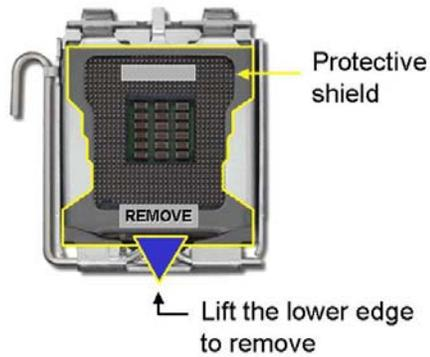

Figure 4-5: Remove the CPU Socket Protective Shield
Step 4: Remove the protective cover. Remove the black protective cover by prying it off the load plate. To remove the protective cover, locate the “REMOVE” sign and use the fingernail to pry the protective cover off. (See Figure 4-5)